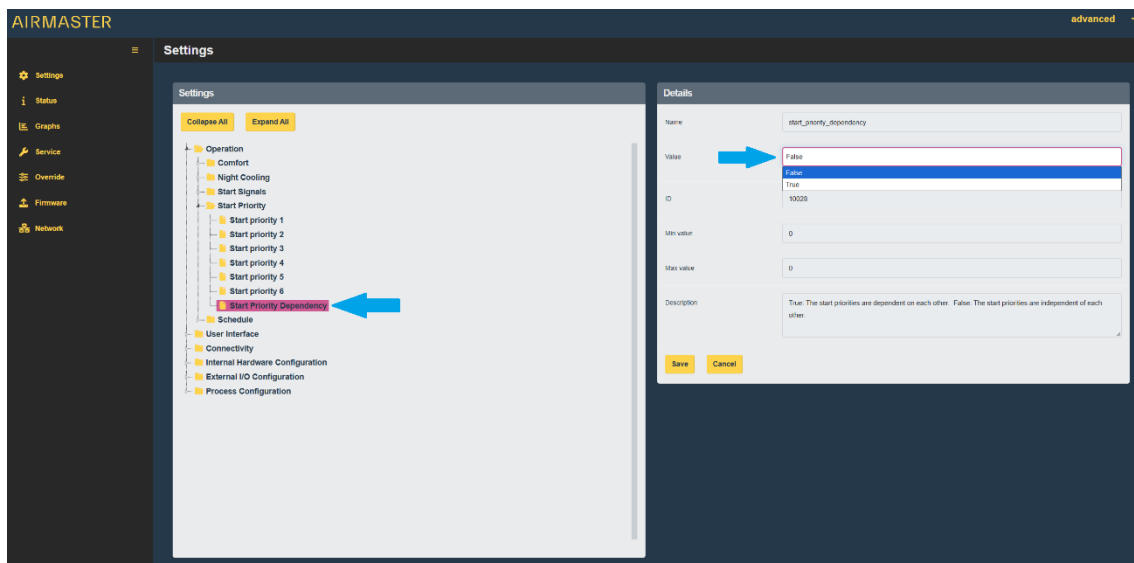

Figure 34: Start Priority Dependency
4. When you have set your priorities, set the “Start Priority Dependency” to either ‘True’ or ‘False’, see Figure 34 below. The default value is set to ‘False’.